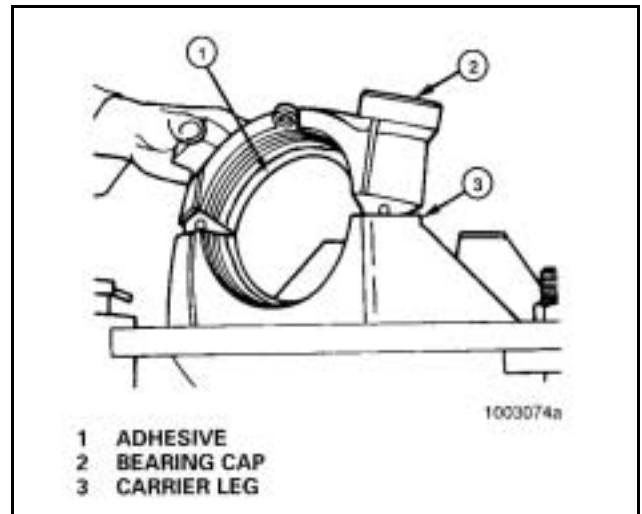

Figure 96
3. Apply Meritor Adhesive into the bearing bores of the carrier legs and bearing caps. Make certain not to allow adhesive to contact adjusting ring threads. Refer to "General Information". **Figure 96.**